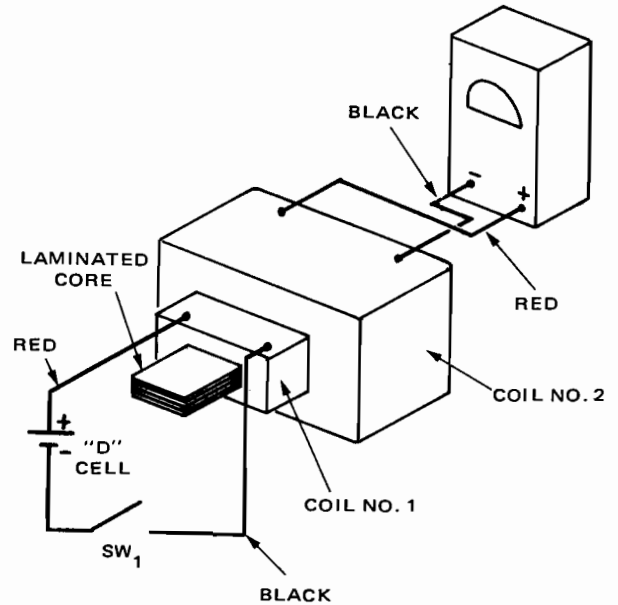

Fig. 9-3-1
1. Connect transformer assembly unit as shown in Fig. 9-3-1.